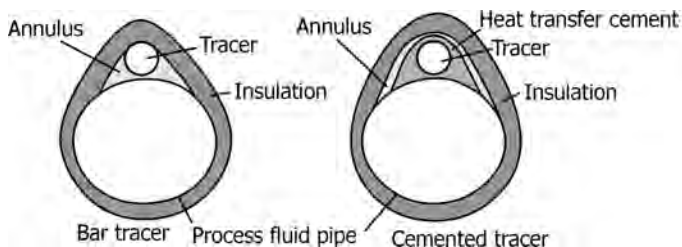

FIGURE 12.7 Heat tracer over a pipe carrying a fluid.
- There are two ways to apply steam tracing (Figure 12.7).
available for heat transfer, between the tracer and the process fluid pipe. Figure 12.7 illustrates application of insulation for such systems.